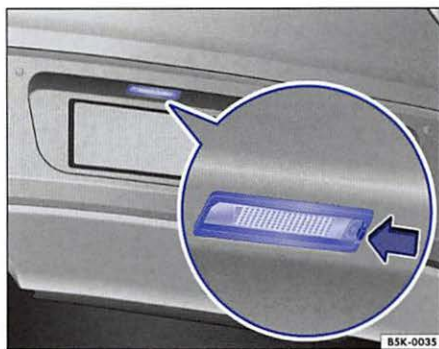

Fig. 176 In the rear bumper: license plate light.
2.	Carefully insert the flat blade of the screwdriver from the vehicle tool kit in the direction of the arrow into the slot in the license plate light ⇒ page 305 ⇒ fig. 176.